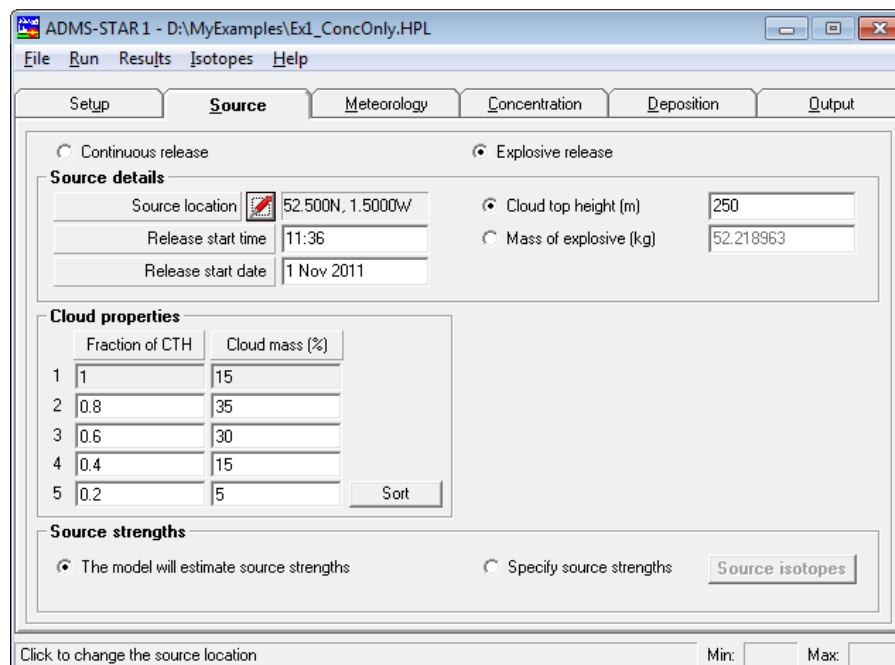

Figure 7.3 - Example 1: the **Source** screen.
- Step 7** Enter the release start time and date, cloud top height and cloud properties as shown in **Figure 7.3**.